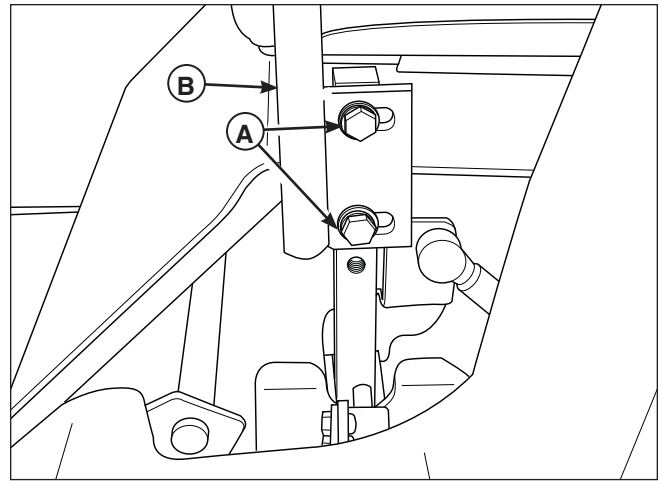

Figure 27. Control Lever Adjustment
Loosen the mount bolts (A, Figure 27) and pivot the lever(s) (B) to align with each other.